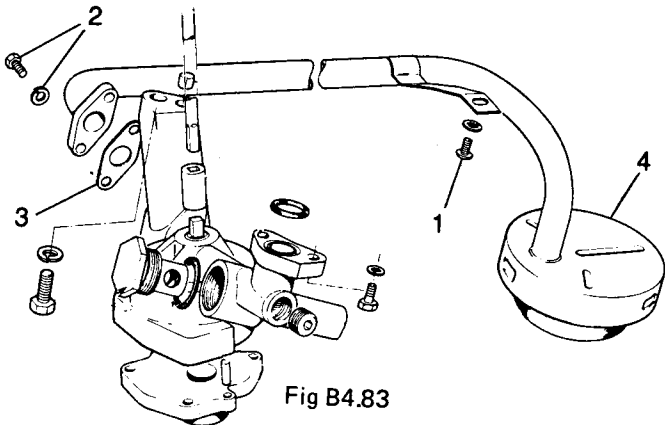

Fig B4.83
- (2) Refer to Fig B4.83. Remove the screw (1) spring, and flat washer securing the support bracket to the main bearing cap. Remove the two screws (2) and spring washers securing the pipe flange to the oil pump. Remove the assembly, detach and discard the flange gasket (3).